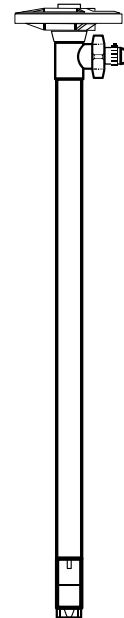

Figure 16
2. Couple motor to existing pump tube (see Figure 16 at right)